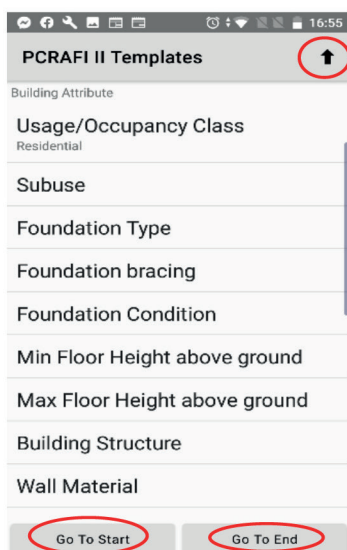

Figure 65: KoBoCollect - View of "all" questions in current attribute
4. The  allows the user to view the rest of the attributes/questions included in the current template. (eg. Figure 65) Kobo also allows the user to skip directly to the beginning or ending of the template by clicking on the "Go To Start" and "Go To End" tabs at the bottom of the page. (Figure 65)